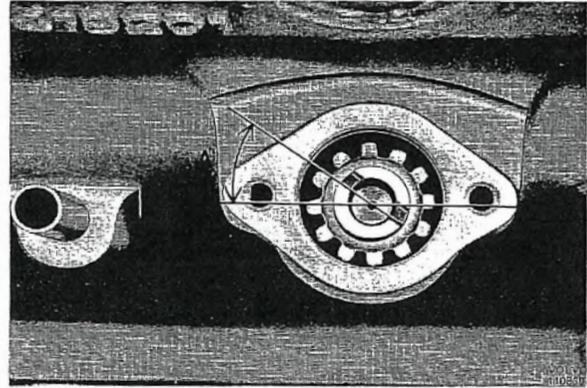

Fig. 2-54. Distributor drive position
When No. 1 cylinder is at top dead center, fit the oil pump drive and distributor. The small part at the groove is turned obliquely upwards-backwards and the groove set at an angle of 5° to the longitudinal axis of the engine, see Fig. 2-54 (A). Make sure that the shaft goes down into its groove in the pump shaft. (NOTE. When the timing gear marks are opposite each other, then the piston for No. 4 cylinder is in the top dead center position, firing position.)